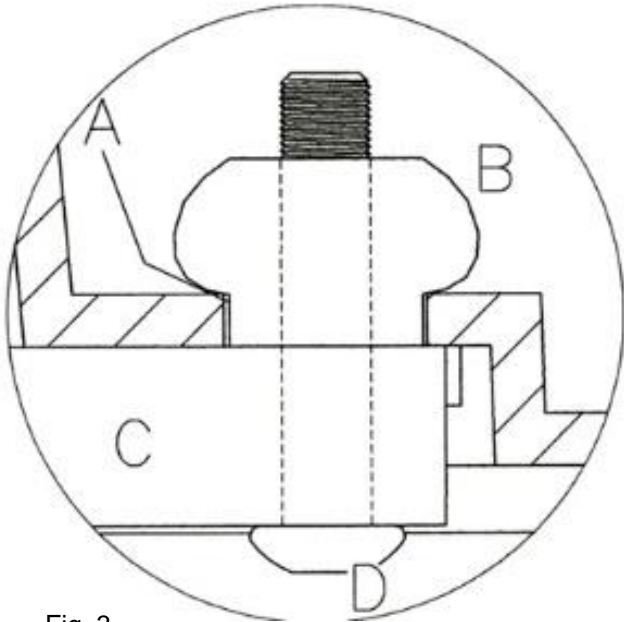

Fig. 3
Further tightening of the screw (D) with a hexagonal screw driver (allen key) the rubber rivet (B) bulges, which creates a tight connection between the connection strap (C) and the TwinCover (see figure 3).